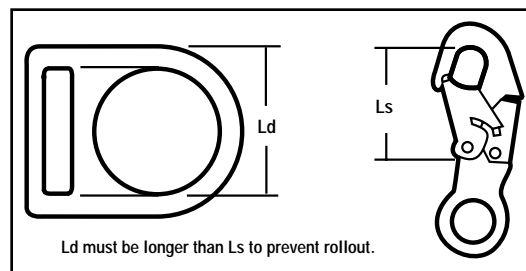

Figure 2: Never use single locking snaphooks. Use double locking snaphooks only.
4.2.1 Only attach the lanyard to an anchorage capable of supporting at least twice the potential impact load of an employee's fall or 3,000 lb., whichever is greater. The anchorage must be compatible with the snaphook. Never use single locking snaphooks. (See figure 2).